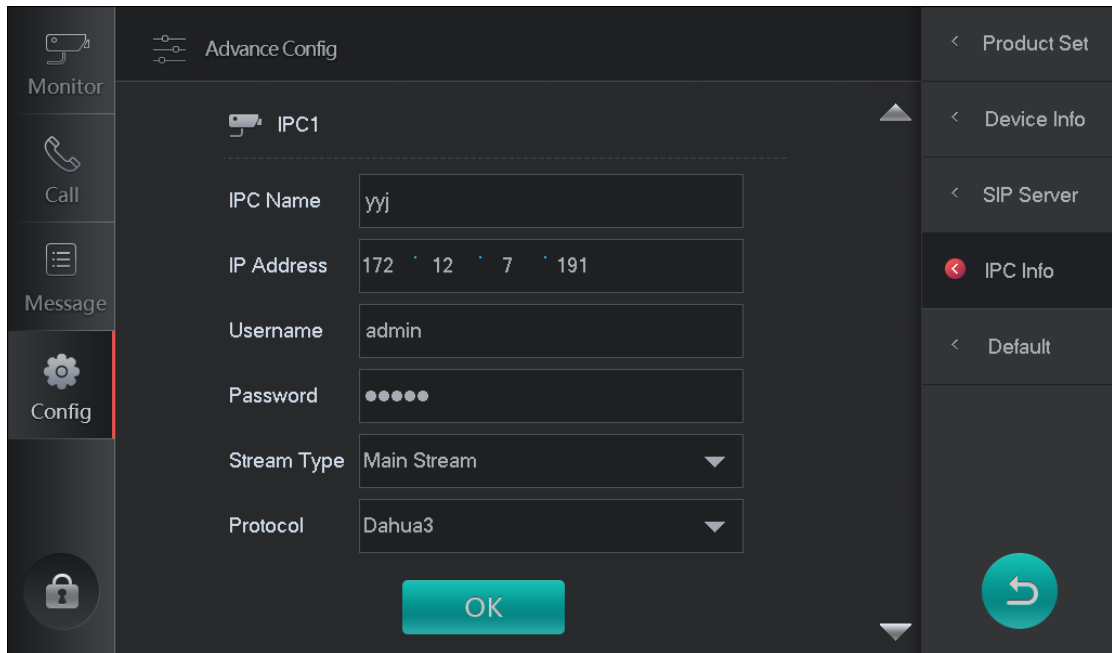

Figure 3-7
Step 1. Select Config>Advance Config>IPC Info. See Figure 3-7.